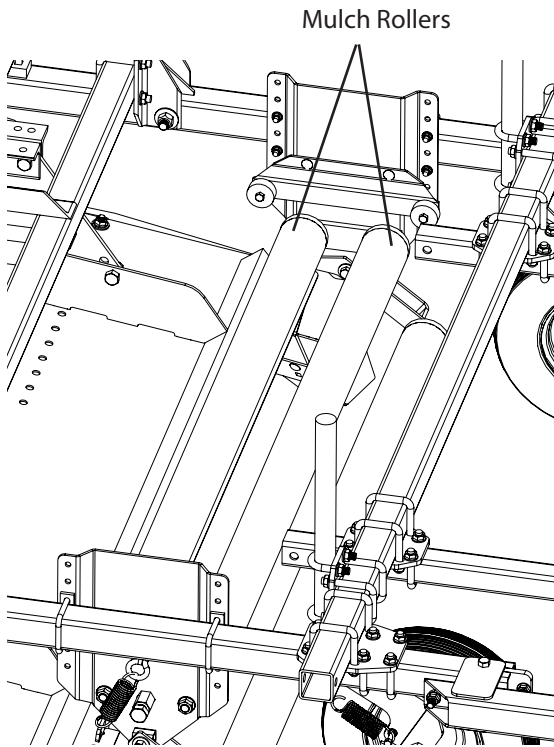

Figure 20: Loading Mulch Roll
- Place the mulch roll on top of the Mulch Rollers (Figure 20).